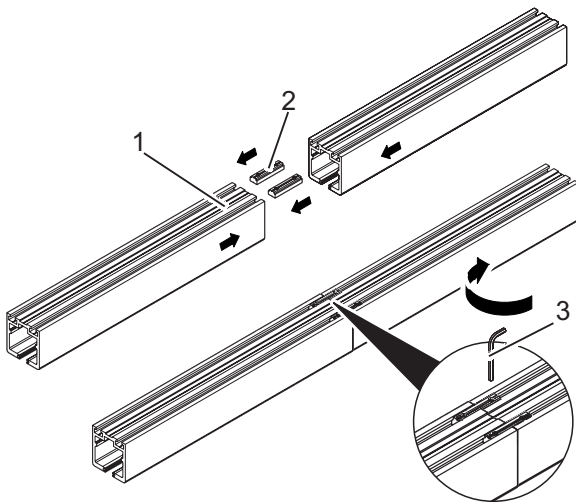

Fig. 7: Mounting the tracks
3. Connect the tracks (Fig. 7/1) using connecting elements (Fig. 7/2) on the floor.
4. Use a 3 mm socket head wrench (Fig. 7/3) to tighten the locking screws of the connecting elements.